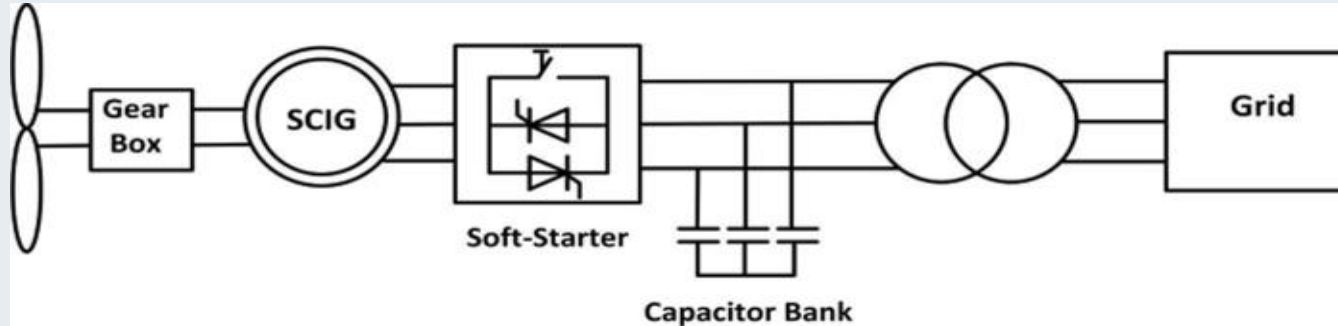

Figure 1: Typical configuration of Fixed-speed wind energy Conversion system. Source: <https://ebrary.net>
- It is essentially a three-phase AC voltage controller composed of three pairs of bidirectional thyristor switches. as presented in Fig.1.